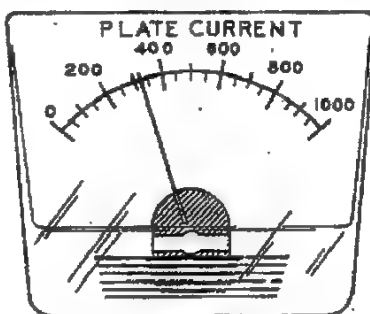

Figure 3
7. The amplifier is now ready for SSB transmission. A typical example of a proper oscilloscope pattern is shown in Figure 3. Note that there are sharp distinct peaks. The number of patterns or "christmas trees" will depend on the individual voice and the